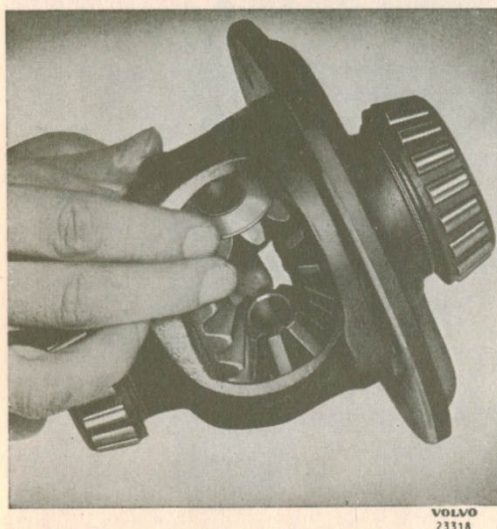
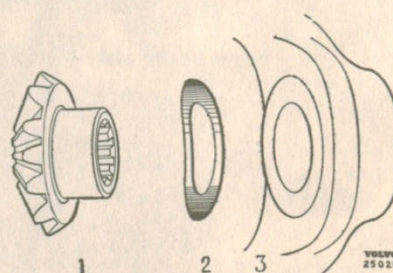

Fig. 5-16. Assembling the differential gears
Fig. 5-17. Fitting spring thrust washers
1. Place the differential side gears (6) with their thrust washer (5) in the differential case (4). Then "roll" in both the differential pinion gears (8) together with the domed thrust washers (11) (both gears at the same time), see Fig. 5-16.
2. Fit the thrust block (12) and drive in the shaft (10).
3. Check the differential unit. If there is any looseness, fit new thrust washers. The flat thrust washers (5) can be replaced with either oversize washers or spring thrust washers. Fit the spring thrust washers the right way round. The "back" should face the differential case, see Fig. 5-17. After checking and, if necessary replacing the washers, fit the lock pin (7).
4. Fit the ring gear (9). Make sure that the contact surfaces are clean and free from burr. Tighten the bolts to a torque of 5.5–7 kgm (40–50 lb.ft.).